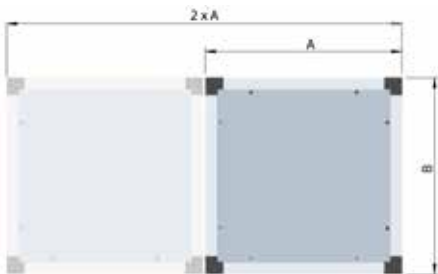

Fig. 10: MUB/T Preconditions for assembly (motor side)
- When assembling the MUB/T, please make sure that there is enough space for the installation of the unit (important at motor side, in case a motor or impeller requires replacement, see Fig. 10).